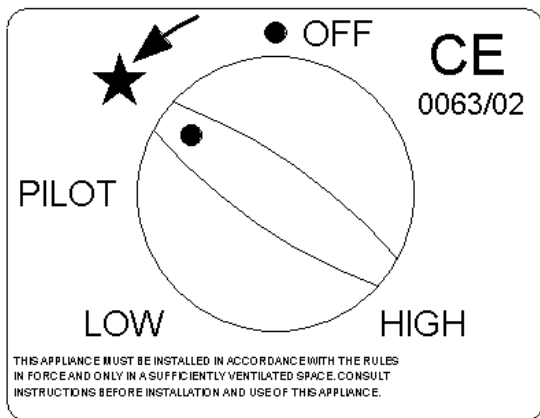

Fig 4a
*Step 1a.* To ignite the pilot push the control knob in, turn anti-clockwise towards the spark position and hold in for 15 seconds. (Fig 4a)